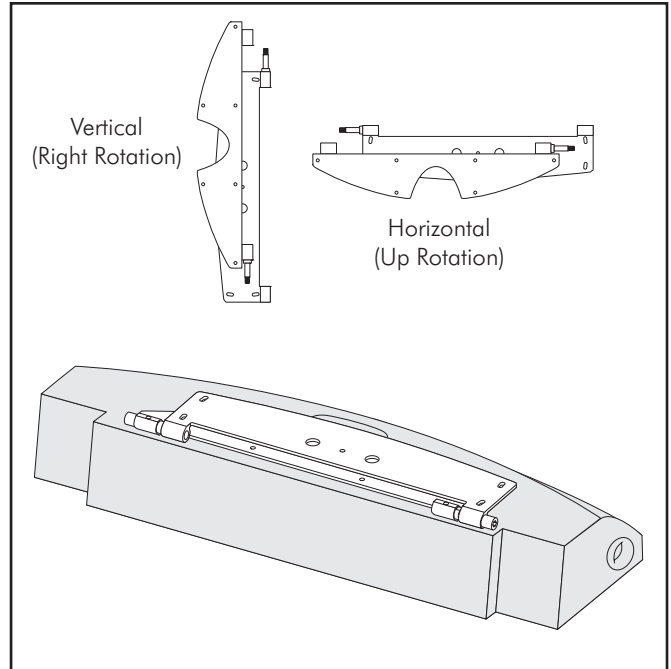

Figure 5. Fresco i's bracket assembly configured for right/up rotation
**NOTE:** Fresco i's bracket assembly consists of two main parts: the wall bracket (attaches to the wall) and the cabinet bracket (attaches to the Fresco i). When correctly configured the wall and cabinet brackets should each have one pin installed—the wall bracket with an upward pointing pin in the upper hinge, and the cabinet bracket with a downward pointing pin in the lower hinge (see figures 5 and 6).
**NOTE:** Fresco i's bracket assembly consists of two main parts: the wall bracket (attaches to the wall) and the cabinet bracket (attaches to the Fresco i). When correctly configured each bracket should have one pin installed—the wall bracket with a pin installed in the left hinge, pointing to the left and the cabinet bracket with a pin installed in the right hinge, pointing to the right (see figures 5 and 6).